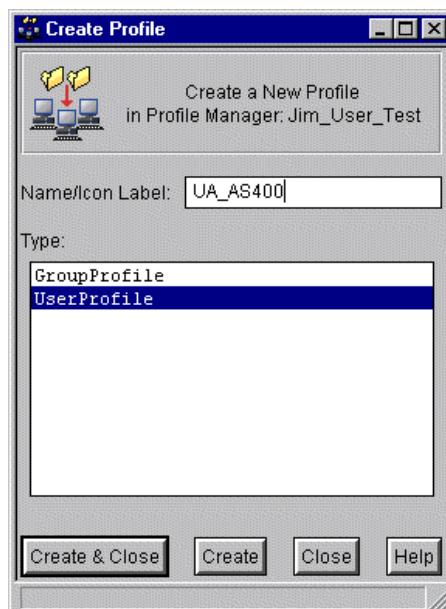

Figure 306. Creating a new User Administration profile
1. Create a new User Administration profile using the **Create** option in the Profile menu of the Profile Manager screen. Choose **UserProfile** as the profile type as shown in Figure 306.